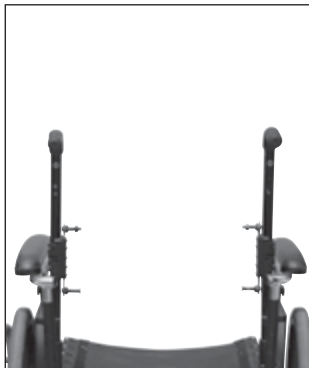

Fig. 5: Cane clamps must be installed at the same height and parallel to each other
6. Measure the height of the Quickfit clamp assembly from a fixed position on the wheelchair and install the second at the same desired height. Further, make sure the cane clamp mounting plates are mounted parallel with each other. See *Fig. 5* below.